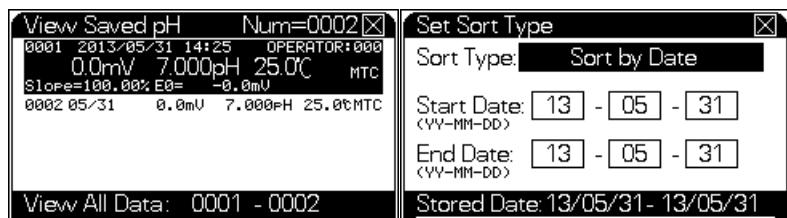

Figure 35 Viewing saved pH data
- 2 Navigate to **View Saved pH** as shown in **Figure 35**. The upper area displays the current viewing mode and actual stored amount.